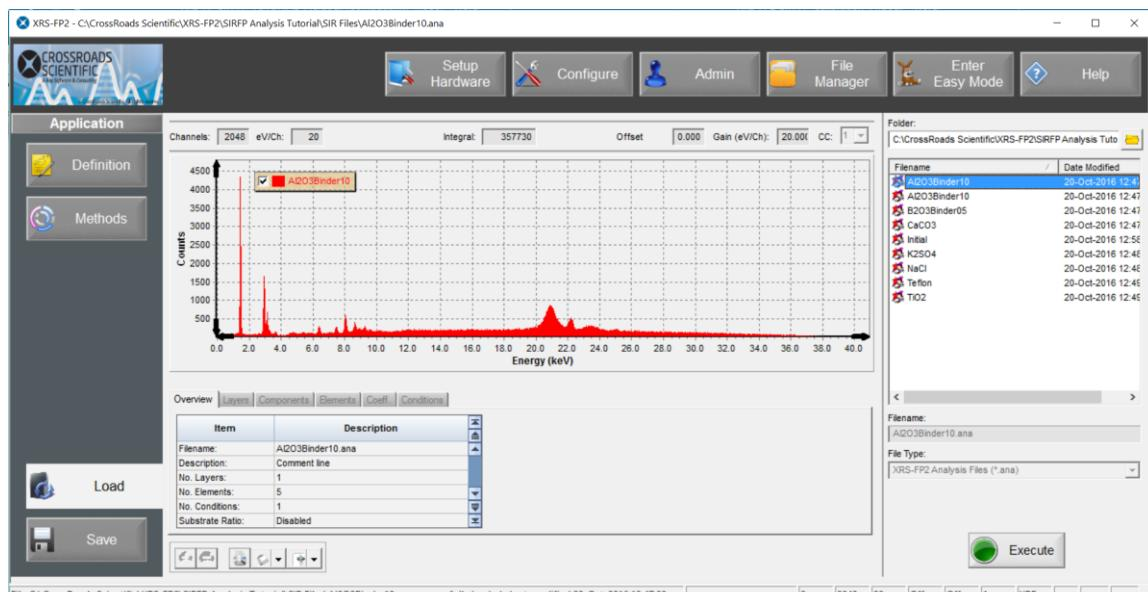

Figure 3. Application - Load. Load the first low-Z standard *.ana file (e.g. Al2O3Binder10.mca).
- Now select the **Load** button. In the R-hand panel select the “Al2O3Binder10.ana” file. This is the ANA analysis file for our 1st low-Z standard. See Figure 3 below. Note that the spectra for this tutorial are already adjusted and in calibration.